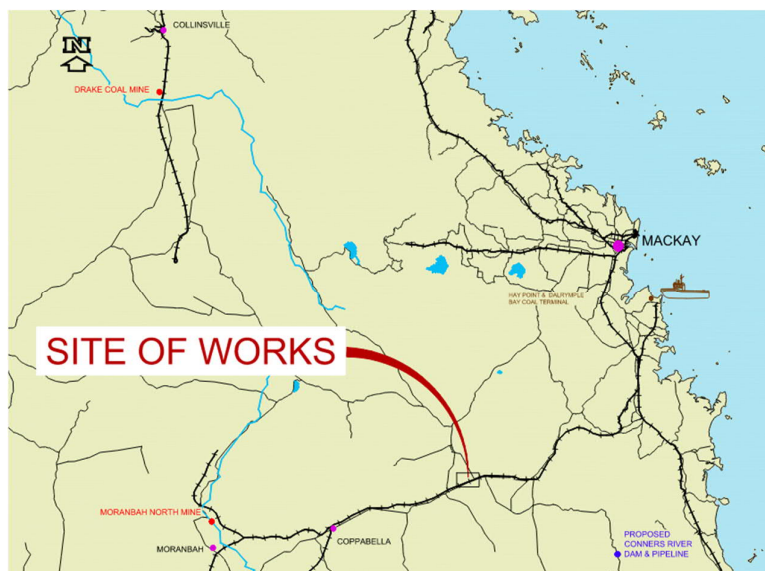

Figure 1.1 Nebo Accommodation Village site location
Pacific National (PN) proposes to develop a workers' accommodation village near Nebo township to support their Train Support Facility (TSF), which is used for maintenance, provisioning, and train crew operations on the Goonyella and Newlands lines. The site is located approximately 90 km southwest of Mackay in Central Queensland, within the Isaac Regional Council local government area (refer to Figure 1.1 for the locality plan). The area is accessible via the Peak Downs Highway to the north, the Oxford Downs Sarina Road to the south, and Braeside Road to the east, with site access provided off Braeside Road.